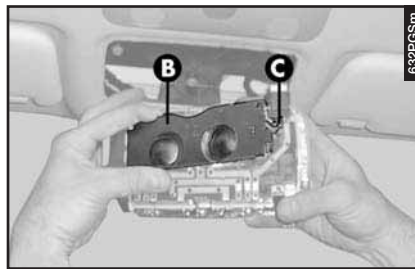

fig. 69
– Remove the screen (**B-fig. 69**) firstly releasing it from the catch (**C**) on the right and then from the two stoppers on the left.
– Refit the screen (**B-fig. 69**), firstly inserting the left side under the two stoppers then on the right side until the catch clicks. (**C-fig. 69**).